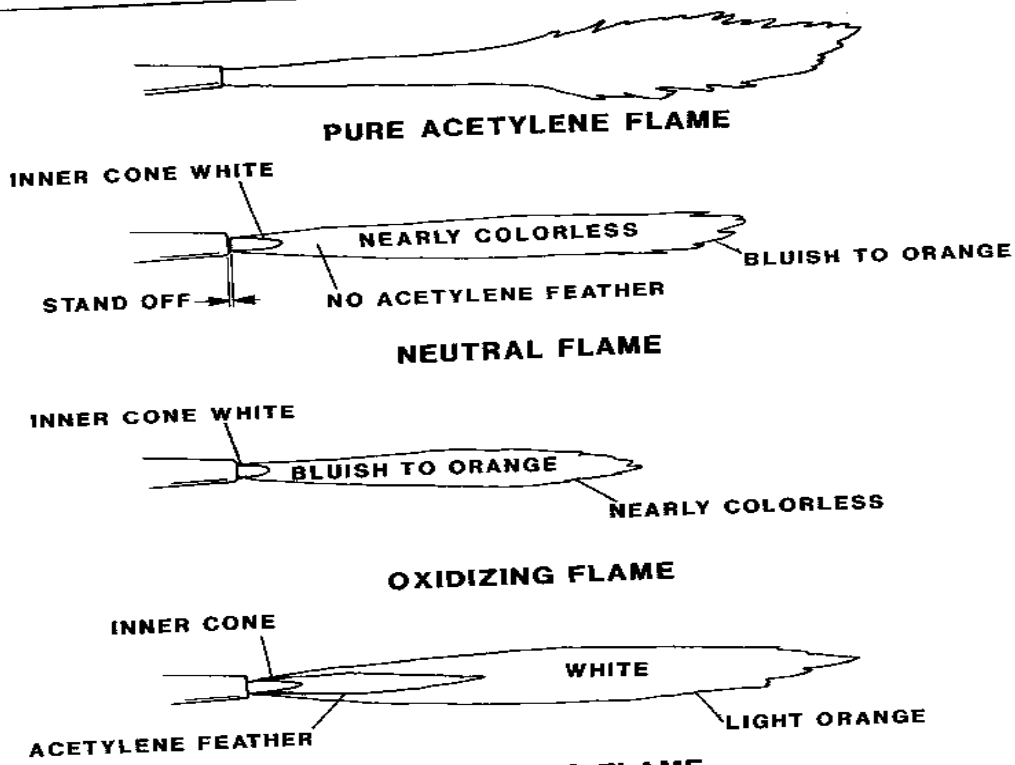

Figure 19, Acetylene Welding Flames
11. Open the torch oxygen valve until a bright neutral flame is established (see Figure 19).